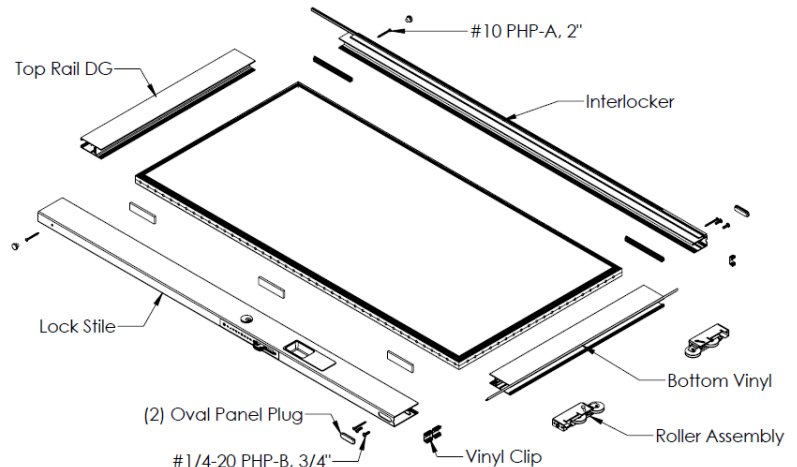

Figure 3:
3. Confirm Bottom Vinyl Sill Wipe is installed into the top groove of the bottom rail (See Figure 3). Leave at 3-7/8" long on the lock stile and 2" on the interlocker side.
5. Position the Lead stile, latch activation hardware facing down, and drive it onto the glass (Figure 3).
6. Secure the stiles to the rails with four (4) #10 PHP-A x 2" and four (4) 1/4"-20 PHP-B x 1/2".